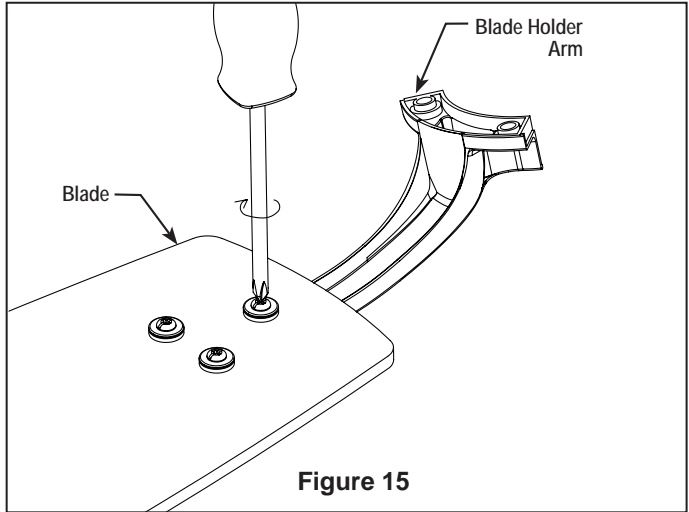

Figure 15
1. Position the blade over the blade holder with threaded posts showing. Make sure the bottom edge of the blade is fully seated against the blade arm. With a phillips screwdriver, tighten 3/16-24 x 7.5 mm phillips head screws and flat washers to secure the blade to the blade arm. (Figure 15)